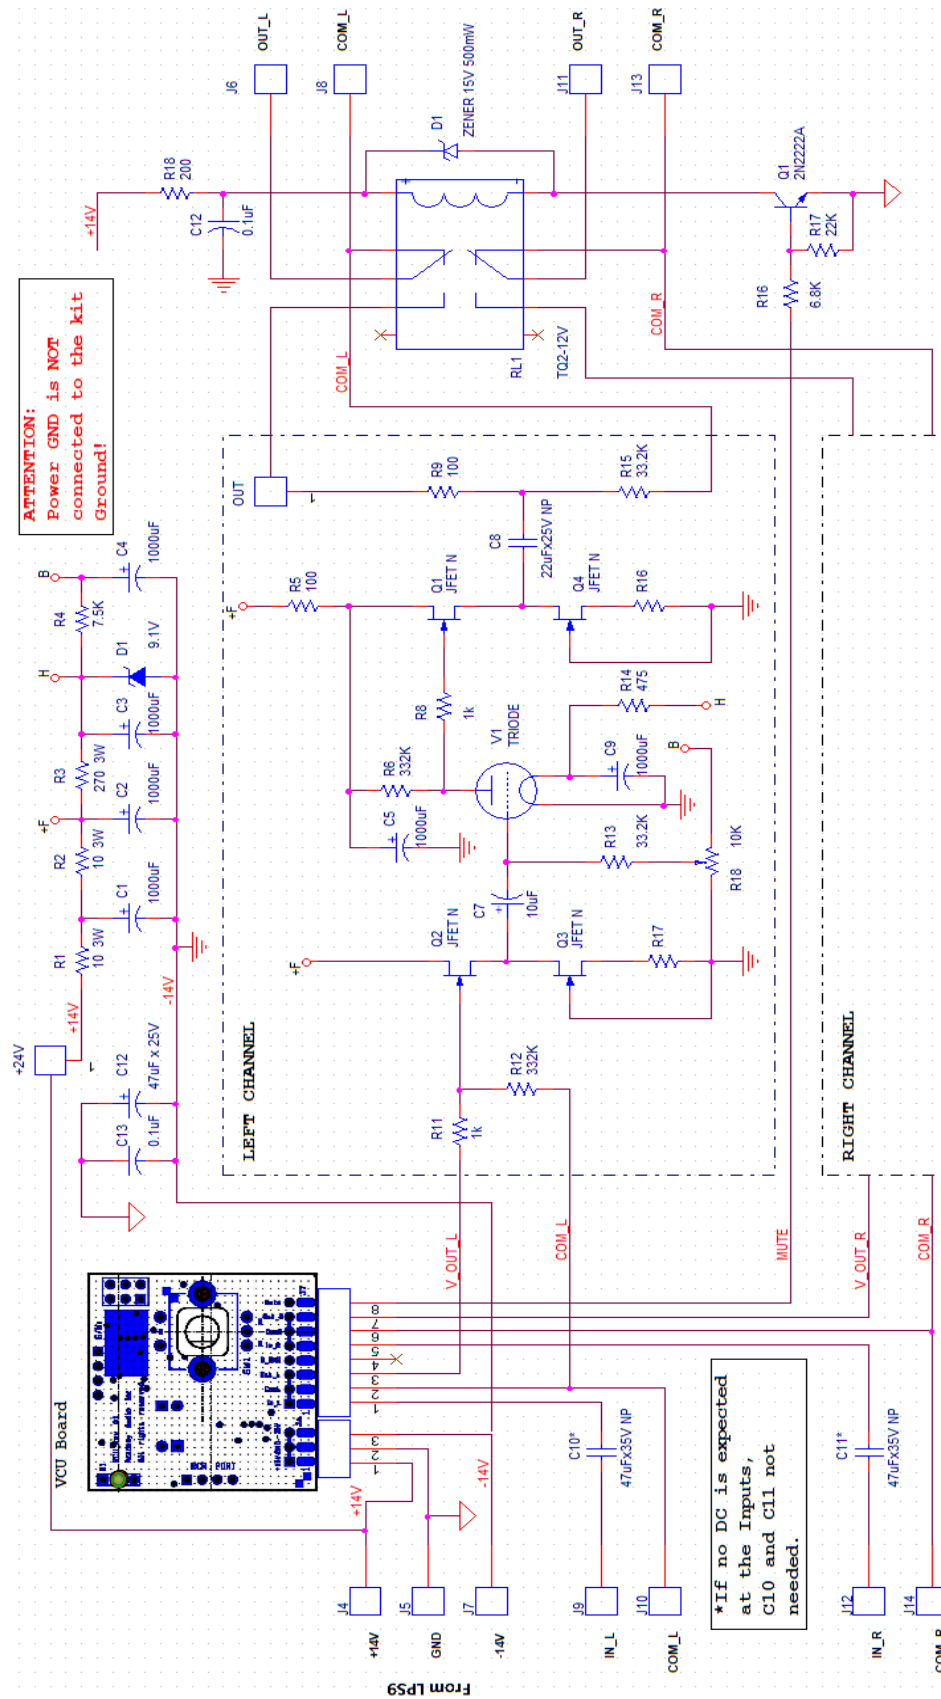

Figure 2. Complete Circuit.
This simple and elegant solution, nevertheless, can be improved upon. The improvement involves using a Low Noise dual power supply board **LPS9** to power the B1 Korg circuitry, which makes the use of the VCU volume control board very straight forward. Please refer to **Figure 2** for a complete circuit diagram.
- Connect resistors R12 and R15 to the COM_L for the Left channel and to the COM_R for the Right channel as shown on Figure 2.
- Connect capacitors C12 and C13 between the GND and the kit Ground as shown on Figure 2 to eliminate the noise pick up from the wiring.